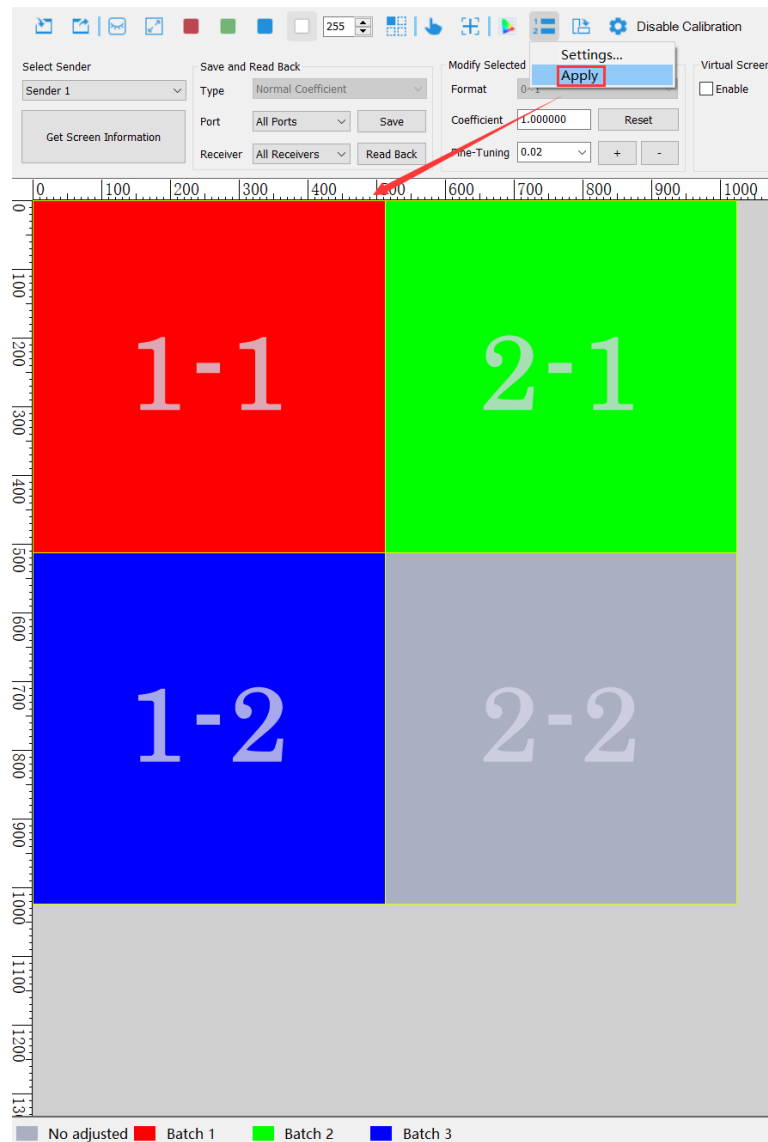

Fig 8.3.8 Apply batch adjustment
- Step 3: Click  and select **Apply** to apply the batch adjustment to the specified calibration coefficients, as shown in Figure 8.3.8.